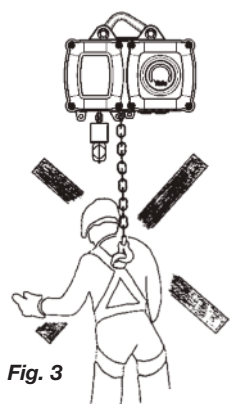

Fig. 3
- Do not use the hoist / trolley for the transportation of people (Fig. 3).